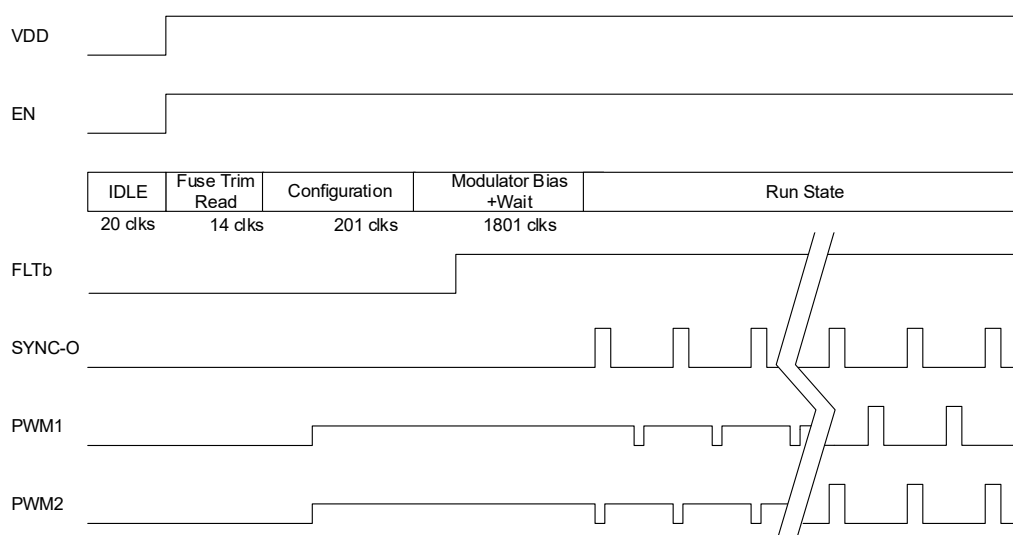
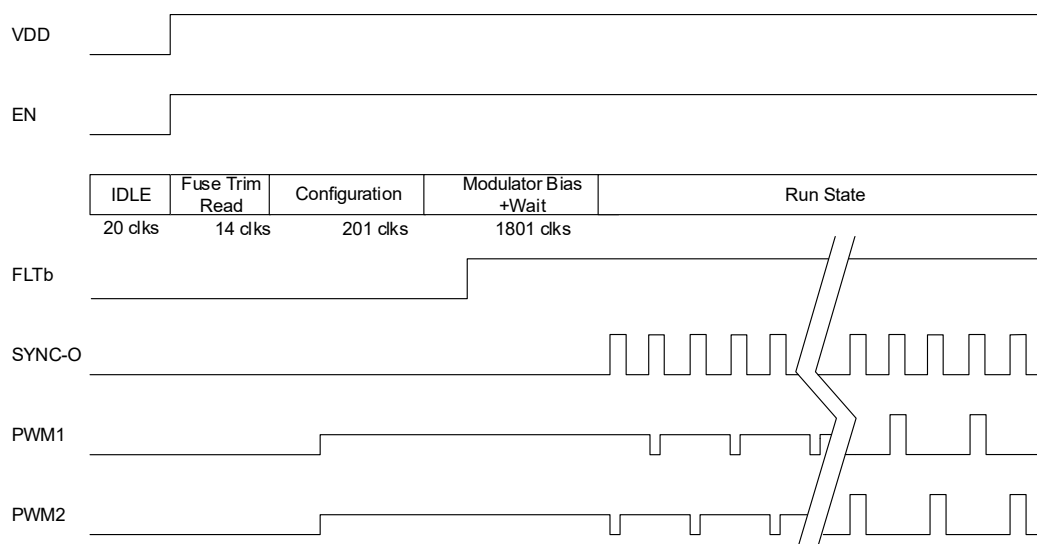

Figure 172. Start Up Timing Diagram ($R_{\text{SYNC-O}} = \text{OPEN}$)
Figure 173. Start Up Timing Diagram ($R_{\text{SYNC-O}} = 100\text{k}\Omega$)
Figure 172 and Figure 173 illustrate the start-up sequence.
During states A and C in Figure 172 and Figure 173, the oscillator blanks the clock signal to the digital core. This is done so that the oscillator has time to stabilize its frequency before entering the configuration state (B) or run state (D).